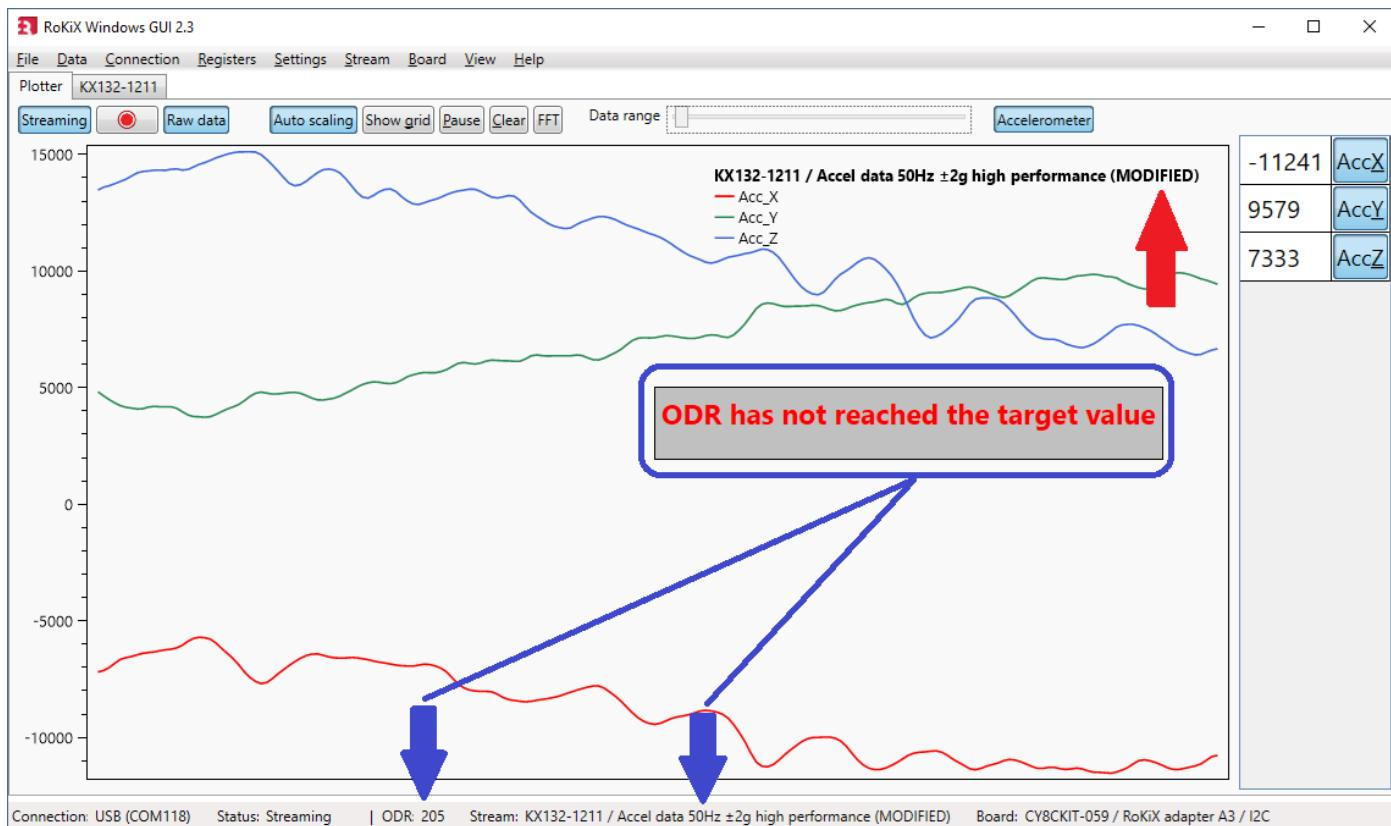

Figure 53. The Plotter View After Modifying the Register Values
**NOTE:** When registers have been changed, "(MODIFIED)" text will be shown after the stream name in the Plotter View area (Figure 53).
**NOTE:** When ODR value has been changed through the register editor, the "ODR has not reached the target value" pop-up message may be shown because the new real-time ODR is significantly different from the original ODR value defined in the stream (Figure 53). The ODR pop-up message can be disabled through the View menu (4.3.8.6).